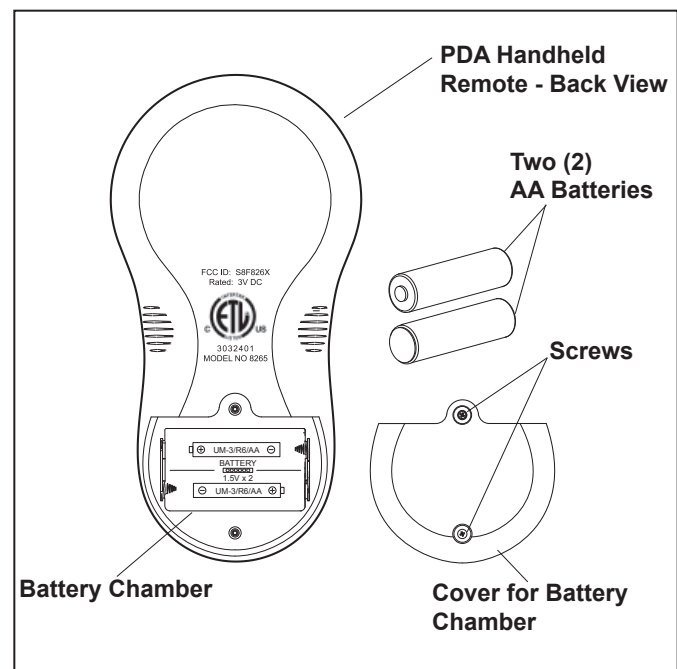

Figure 21. Battery Installation on Handheld Remote
2. On the back of the handheld remote, loosen and remove the two (2) screws that secure the cover for the battery chamber (see Figure 21).
3. Install two (2) AA batteries. Ensure that the polarity is correct.
4. Re-install the cover for the battery chamber and secure with the two (2) screws removed in Step 2.